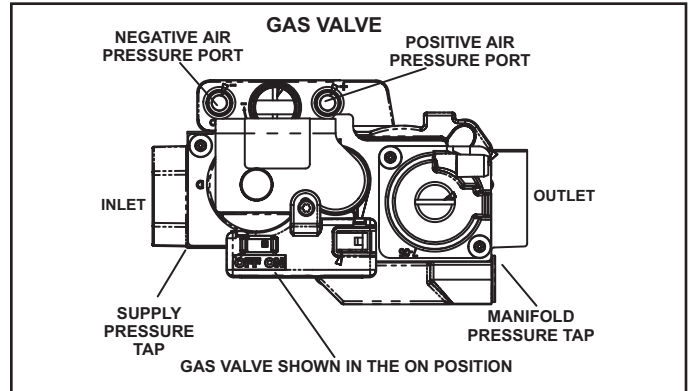

FIGURE 52
Gas Valve Operation (FIGURE 52)
- 6 - Move gas valve switch to **OFF**. See FIGURE 52.
- 8 - Move gas valve switch to **ON**. See FIGURE 52
- 2 - Remove the threaded plug from the outlet side of the gas valve and install a field-provided barbed fitting. Connect measuring device positive "+" to barbed fitting to measure manifold pressure. See FIGURE 52 for manifold location.